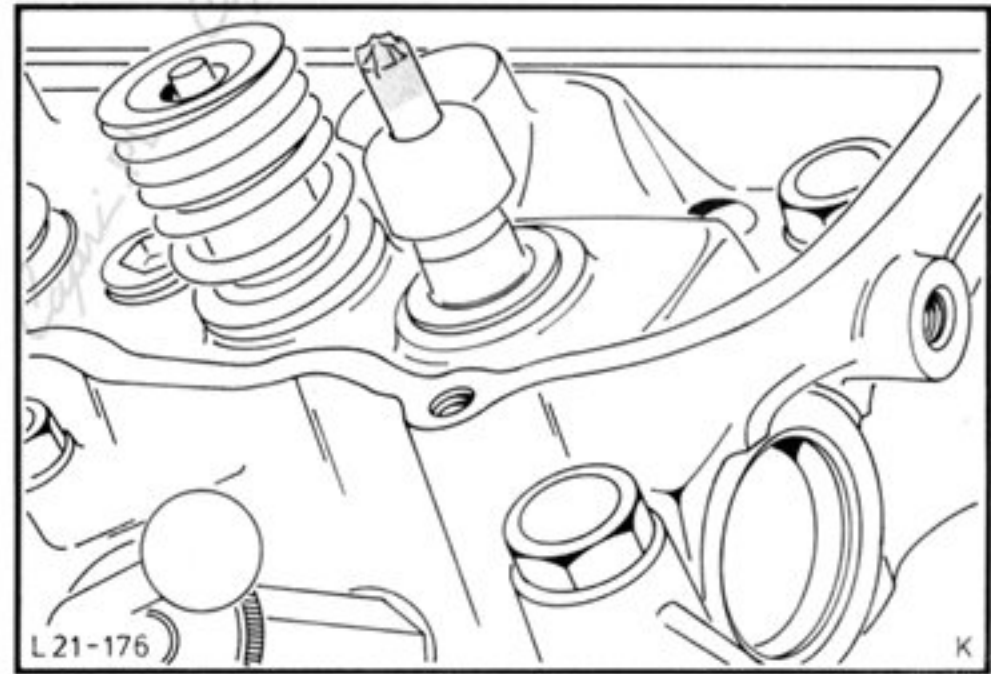

Fig.110. Slide seal onto valve stem.
8. Cover valve collet groove with adhesive tape, slide new valve stem seal onto the valve stem, Fig.110, and push down against the stop. Remove adhesive tape from valve stem. Fit valve spring and valve spring plate, compress with Special Tool and fit collets. Pay attention to correct seating of collets. Release pressure on valve spring and remove Special Tools.